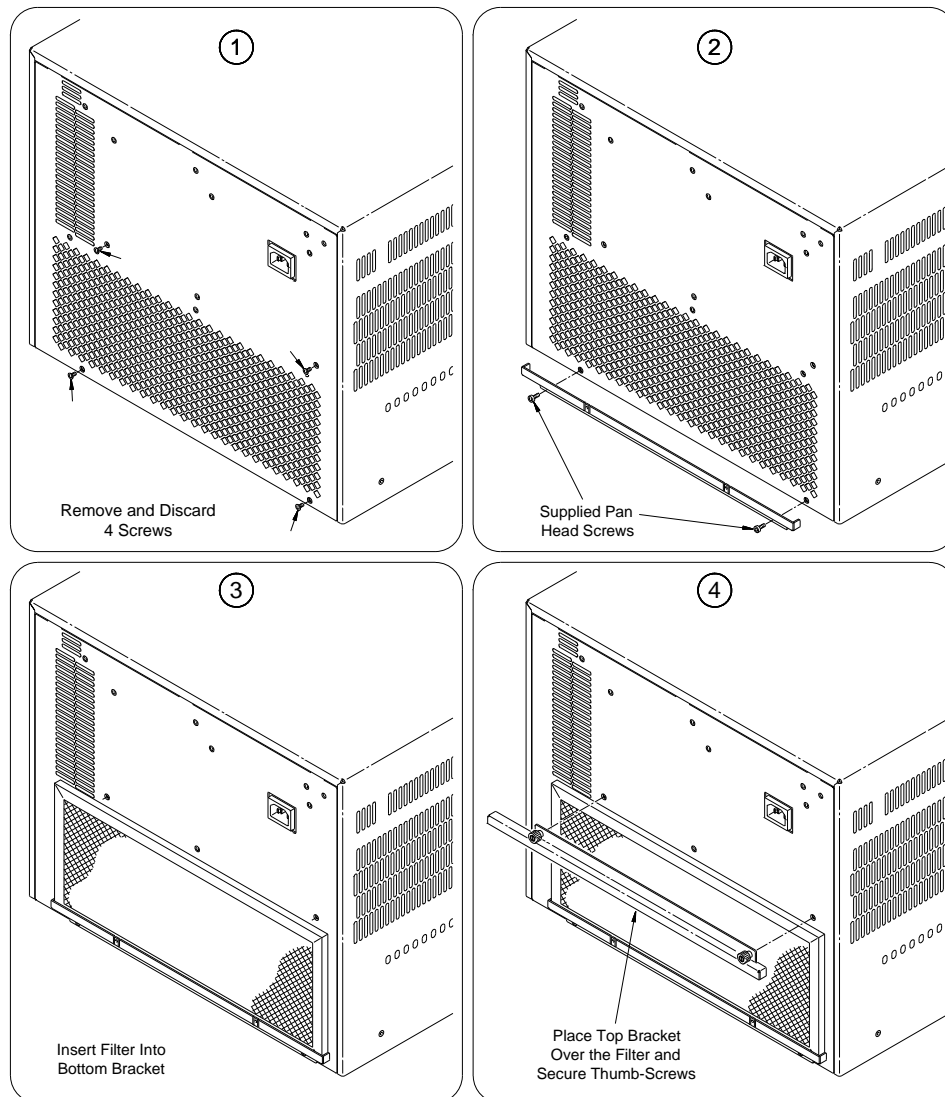

Figure 2-15. Installing the Optional Air Filter Kit
An optional air filter kit can be purchased for the Agilent E840xA mainframe. Figure 2-15 shows how to install the kit.
1. Remove the four screws from the rear panel as shown in Figure 2-15.